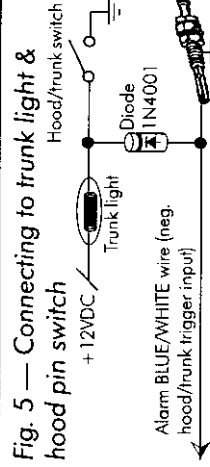

Fig. 5 — Connecting to trunk light & hood pin switch
- 7. **10-wire connector, BLUE/WHITE WIRE (negative hood/trunk trigger input), figs. 5 & 6**
A. If the vehicle has a trunk light — Use a VOM meter to locate a wire which shows ground with the trunk open, and which is not ground with the trunk closed. Mount a pin switch in the hood. Connect as shown in fig. 5. Don't forget the diode.